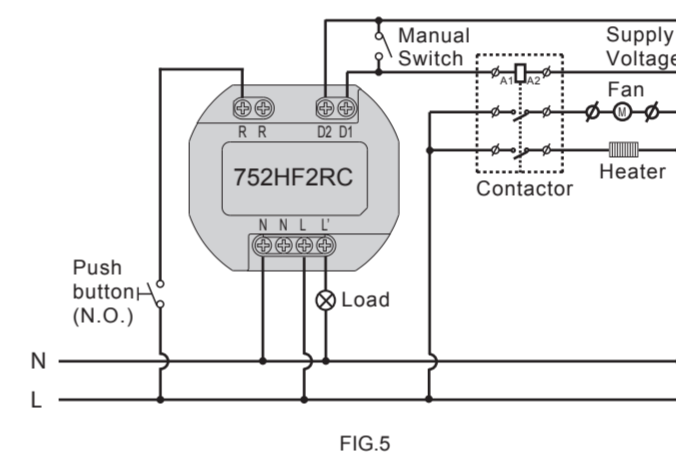
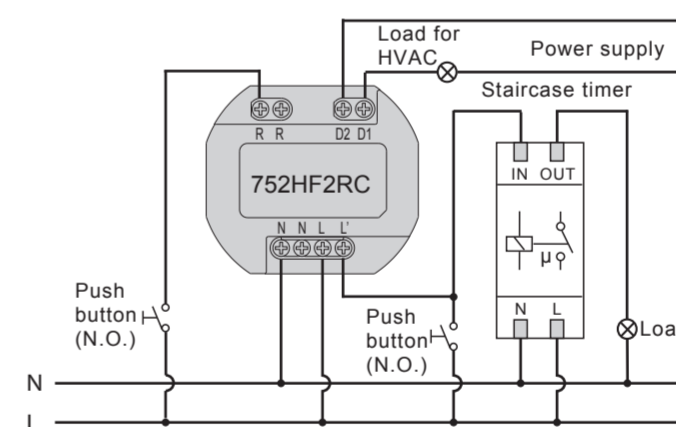
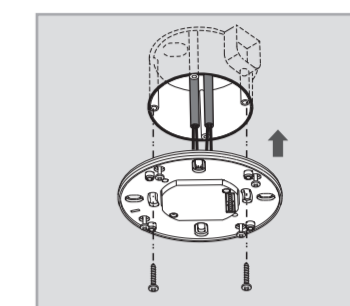
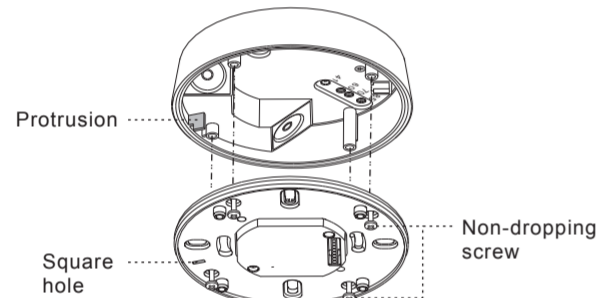

FIG.5
FIG.6
FIG.9
FIG.17
4.3.1 Standard application (See FIG.5)
4.3.2 Sensor controls staircase timer switch (Time1 should be set to \overline{L}) (See FIG.6)
- 4.4.1.3 Fix the power box into junction box with 2pcs screws (See FIG.9).
- 4.4.2.3 Please refer to illustration of FIG.5 - FIG.6 for correct wiring and then screw the flush-mount enclosure tightly.
4.4.3.5 Refer to wiring diagrams for correct wiring connection (See FIG.5 - FIG.6). There is a square hole in the fixing plate, when you put the fixing plate into the enclosure, please fit the fillister to the enclosure's protrusion (See FIG.17), then fix the sensor head on the power box following FIG.9 and assemble them with the attached 4pcs non-dropping screws.